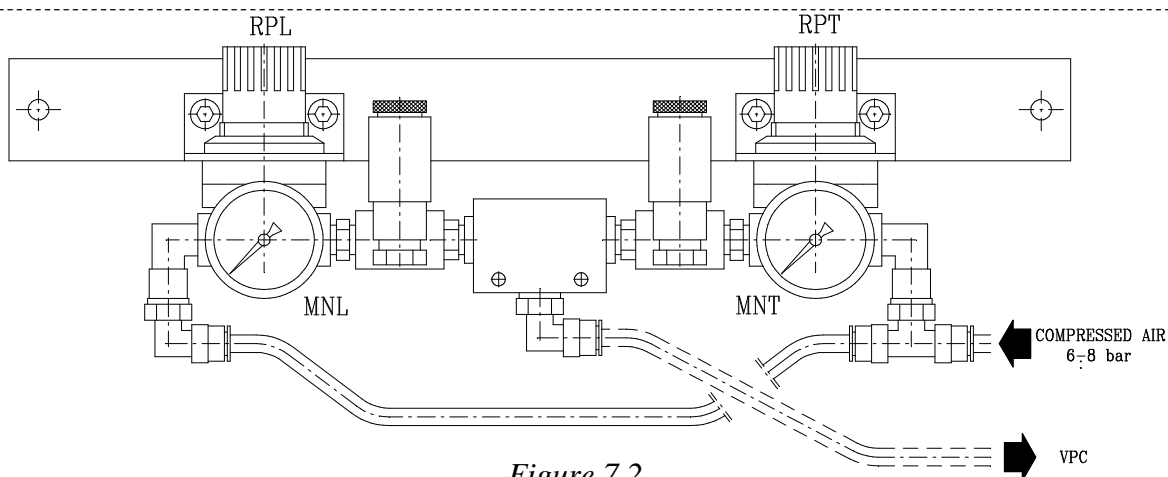

Figure 7.2
- no. 1 constant pressure valve, to maintain constant the counter-pressure at the outlet of the heavy phase. The regulation is performed by acting on pressure regulators (RPL, RPT - fig. 7.2);
The supply is complete of the following pneumatic components (fig. 7.2):